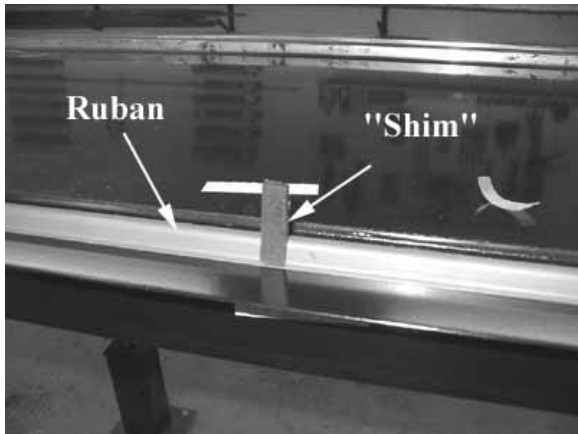

FIGURE 59 : HALF-WINDOW INSTALLATION
7. **HALF-WINDOW ONLY:** place masking tape on awning or sliding window frame to protect it from smudge (see FIGURE 59);
8. **HALF-WINDOW ONLY:** On awning window, place 3 shims #790392 on frame, one at the center and the 2 other at each edge. On sliding window, place 3 shims #790392 on frame, one at the center and the 2 other at each edge in order to have a gap of 10mm between both windows (see FIGURE 59);